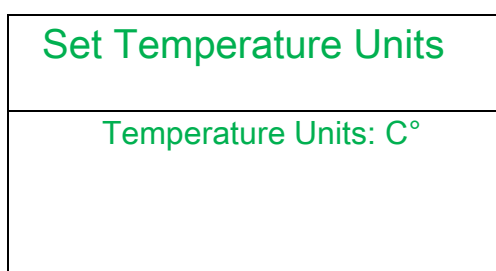

Figure 25
2. Using the SCROLL DOWN key, move down to option 3: "Set Temperature Units". Press ENTER again to move into the "Set Temperature Units" screen. **SEE FIGURE 25.**